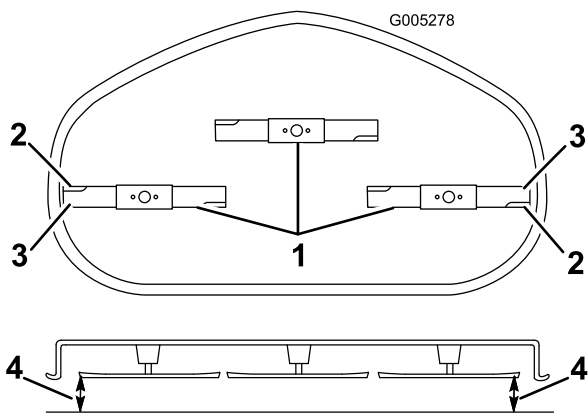

Figure 55
5. Carefully rotate the blade(s) side to side (Figure 55). Measure between the outside cutting edges and the flat surface (Figure 55). If both measurements are not within 3/16 inch (5 mm), an adjustment is required; continue with this procedure.